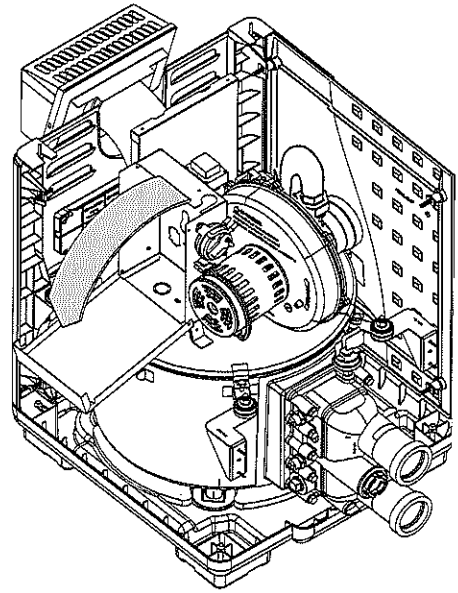

Figure 28.
3. Open control box cover (see Figure 28).
- Connect wires between the Fireman's Switch terminals on the heater and the relay. Connect wires from the controller or timer to the Fireman's Switch. Controller, timer or relay should be sized to handle 24VAC at 0.5 Amp (because it will be completing the 24VAC control board circuit on the heater as shown in Figure 28). **DO NOT** apply line voltage to the Fireman's Switch terminals. Use 18 gauge wire with a minimum 3/64" (1.2mm) thick insulation rated for a temperature rise of at least 105°C.